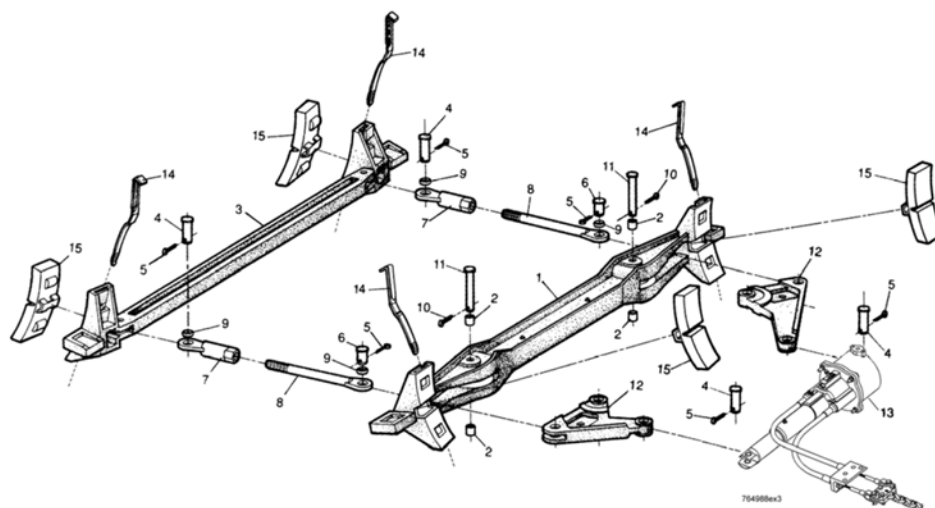

Figure 19: NYCOPAC II Assembly with Handbrake (Truck Set)
5.4.2 NYCOPAC II Assembly - With Handbrake (Truck set), Fig. 19